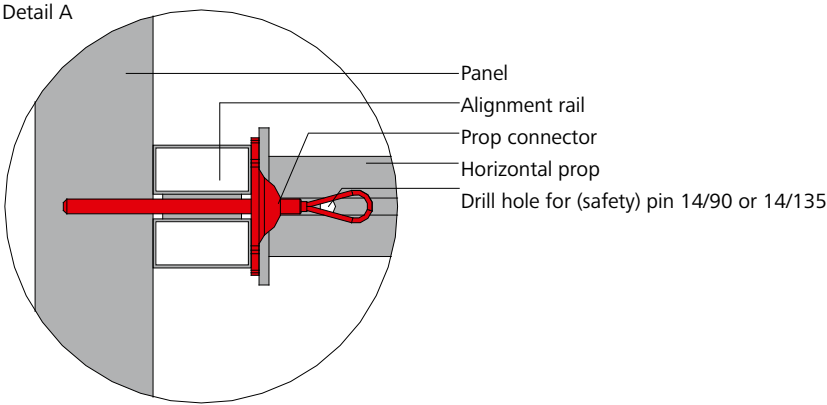

Fig. 16.3
- The prop connector is screwed through an alignment rail into the welded nut of the multi-function profile of the the wall formwork panel (Fig. 16.3).